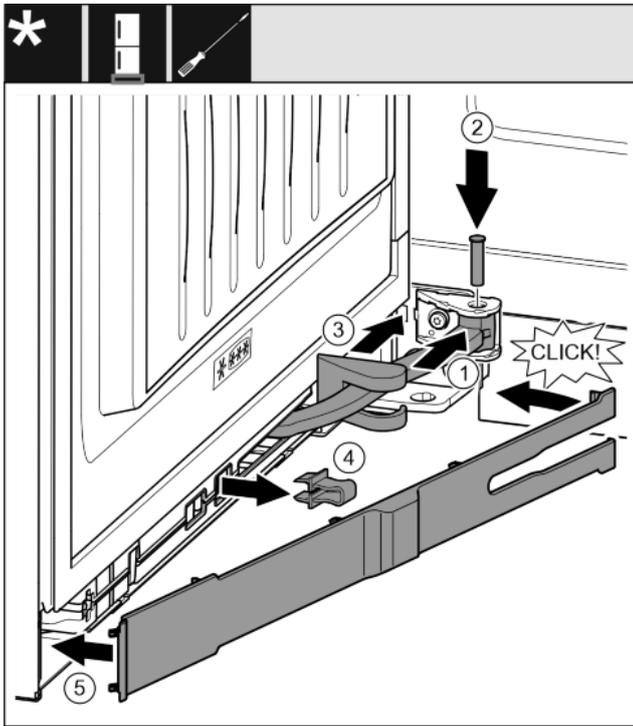

Fig. 37
- ▶ Turn the hinge in the mount. Fig. 37 (1)
- ▶ Insert the bolt with a T15 screwdriver in the mount and hinge. Make sure that the latching lug sits correctly in the groove. Fig. 37 (2)
- ▶ Push the bearing bracket cover along the hinge and fit it via the mount. Fig. 37 (3)
- ▶ Remove the locking device. Fig. 37 (4)
- ▶ Position the panel on the handle and swing it in. Fig. 37 (5)